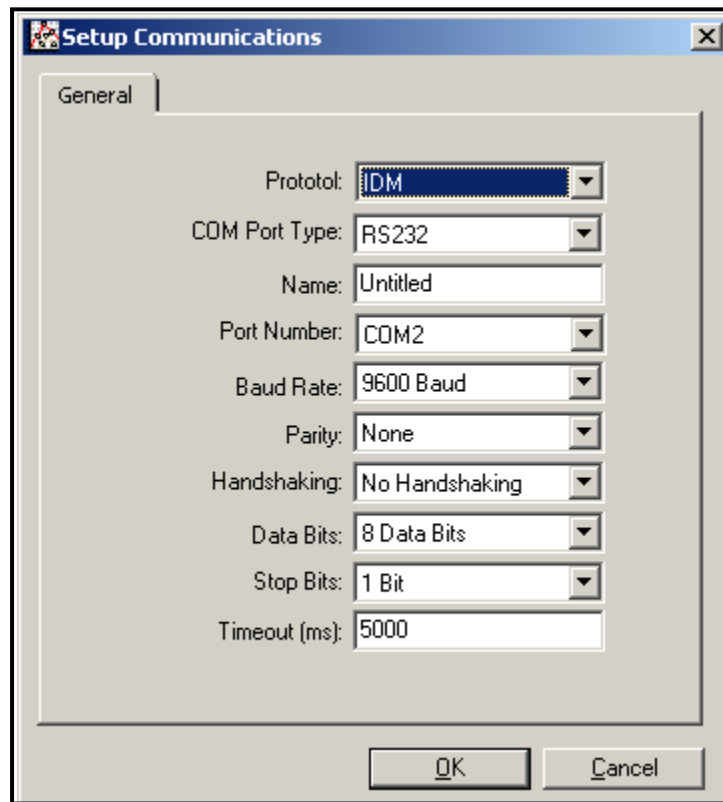

Figure 19: *Setup Communications* Screen
4. Click on the "Communications Port" option to select it. The *Setup Communications* screen appears similar to Figure 19 below.